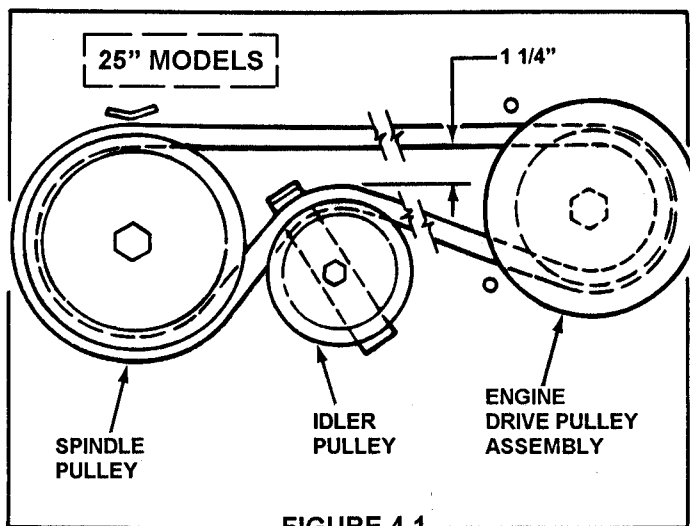

FIGURE 4.1
3. Measure the belt spacing at idler pulley. The distance should measure 1 1/4" but no less than 1". See Figure 4.1.